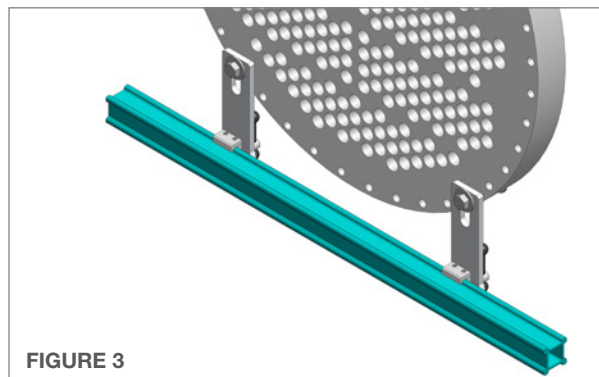

FIGURE 3
3. Insert the **Lower Rail (non-slotted)** into the lower mounting brackets. It is not critical that this rail is aligned as precisely as the top rail, but it should be close to parallel with the top rail for best performance. Tighten the clamps securing the rail to the mounting brackets. Ensure lower mounting brackets are securely clamped or bolted to the tube bundle flange. **(Figure 3)**